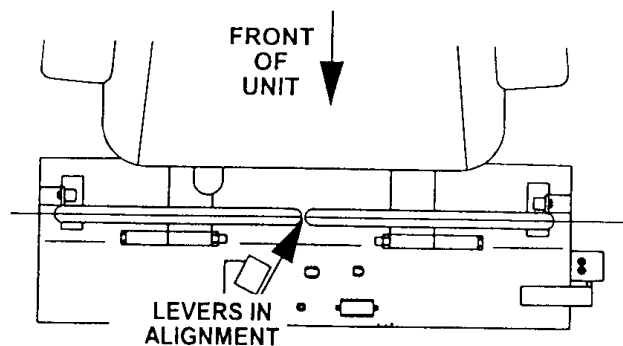

Figure 4
12. If the ends of the levers hit against each other, while in the drive position (Fig 4) (levers rotated in as far as possible) make adjustments by moving the levers outwards to the neutral lock position and carefully bend them outward. Move them back to the drive position and check for clearance. Repeat if necessary.